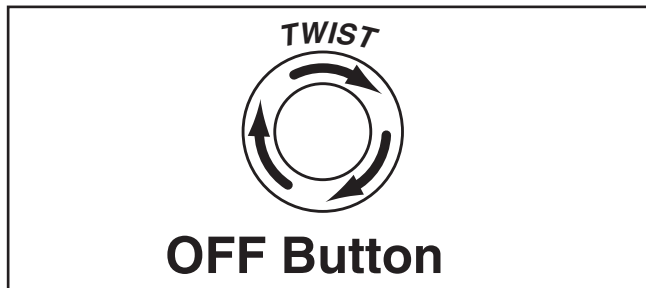

Figure 5. Resetting the switch.
5. Twist the OFF button clockwise so it pops out. When the OFF button pops out, the switch is reset and ready for operation (see **Figure 5**).